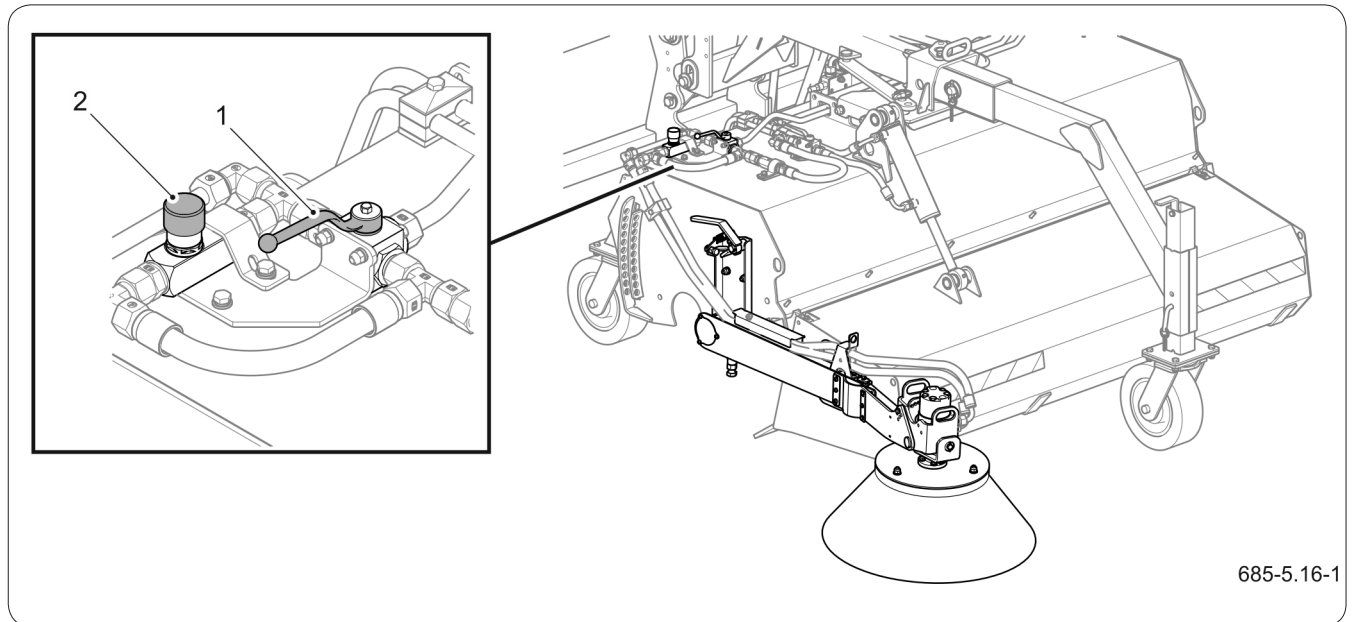

Figure 5.17 Side brush drive control
(1) shut-off valve (2) brush speed adjustment knob
The side brush drive is activated together with the roller brush drive. The side brush (Figure 5.17) has the possibility of disengaging its drive by means of a shut-off valve (1). The throttle valve knob (2) is used to adjust the brush speed (adjustment range 0 to maximum)